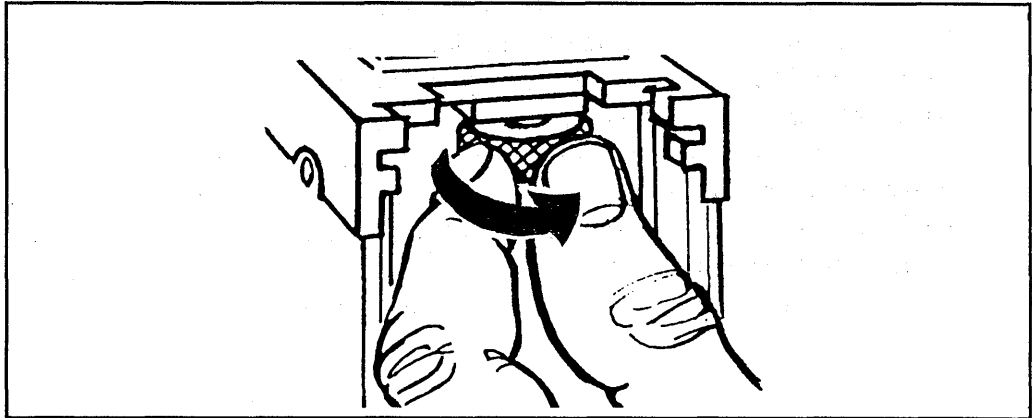

Figure 3-25. Adjusting the timing nut.
- (7) Remove the gauge, cock the gun, and return the bolt forward.
- (8) Insert the fire gauge.
- (9) Remove the backplate.
- (10) Screw the timing adjustment nut all the way down until it touches the trigger lever (Figure 3-25).